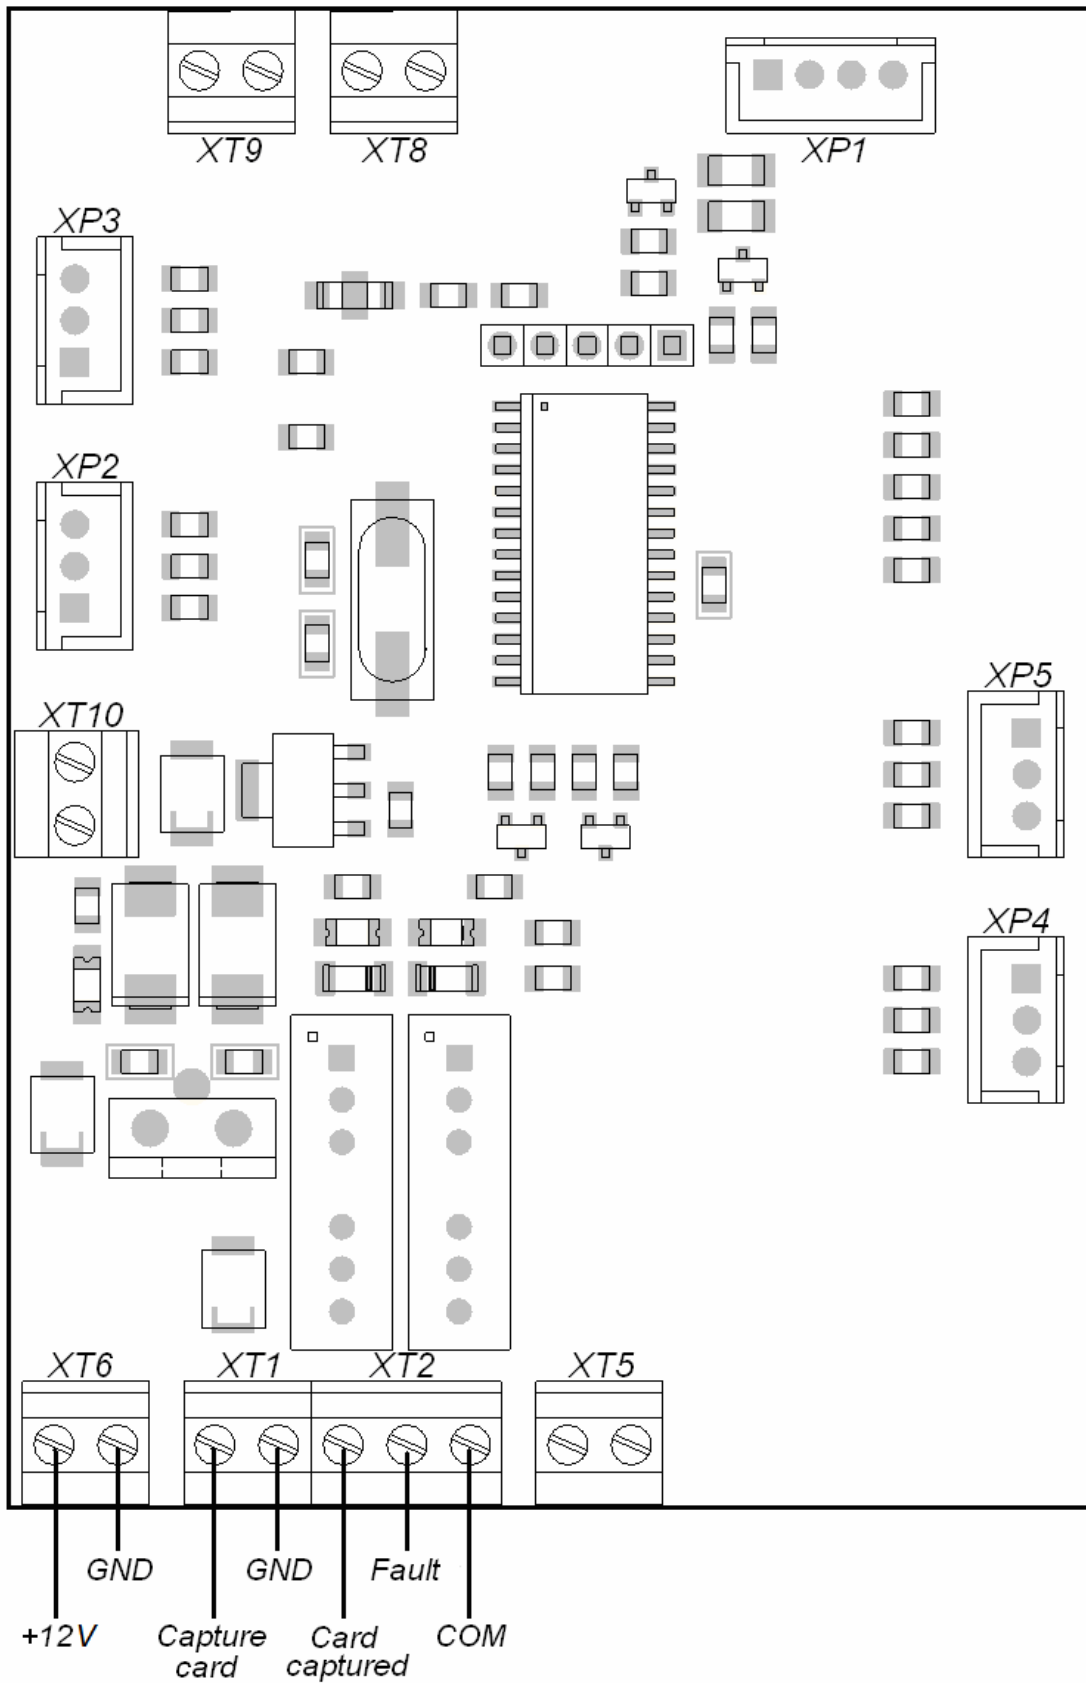

Figure 4. Card capture reader control board
Power cable (10)¹ is connected to the connector block *XT6* of the card capture reader control board (see Figure 4).